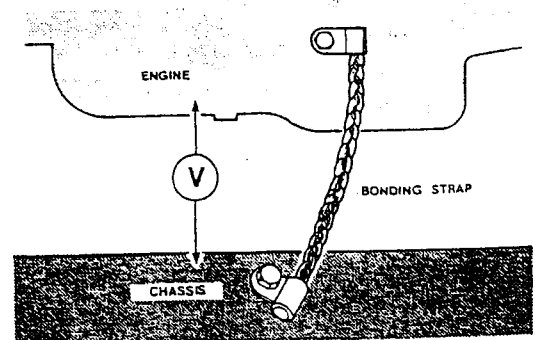

Fig. 16 Checking the bonding strap
**TEST 8. Checking Bonding Strap (Fig. 16)**